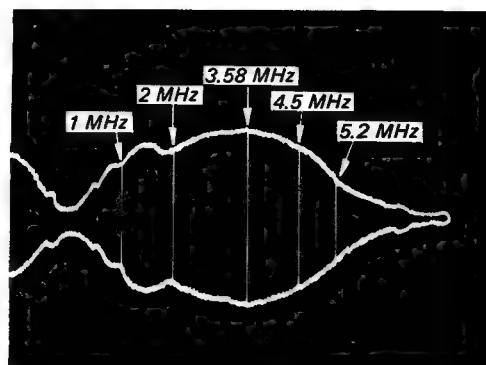

Fig. 5-7 Rf sweep envelope
4. Check to see that the sweep signal of Fig. 5-7 is obtained on the scope. If the sweep signal differs from Fig. 5-7, adjust as follows: